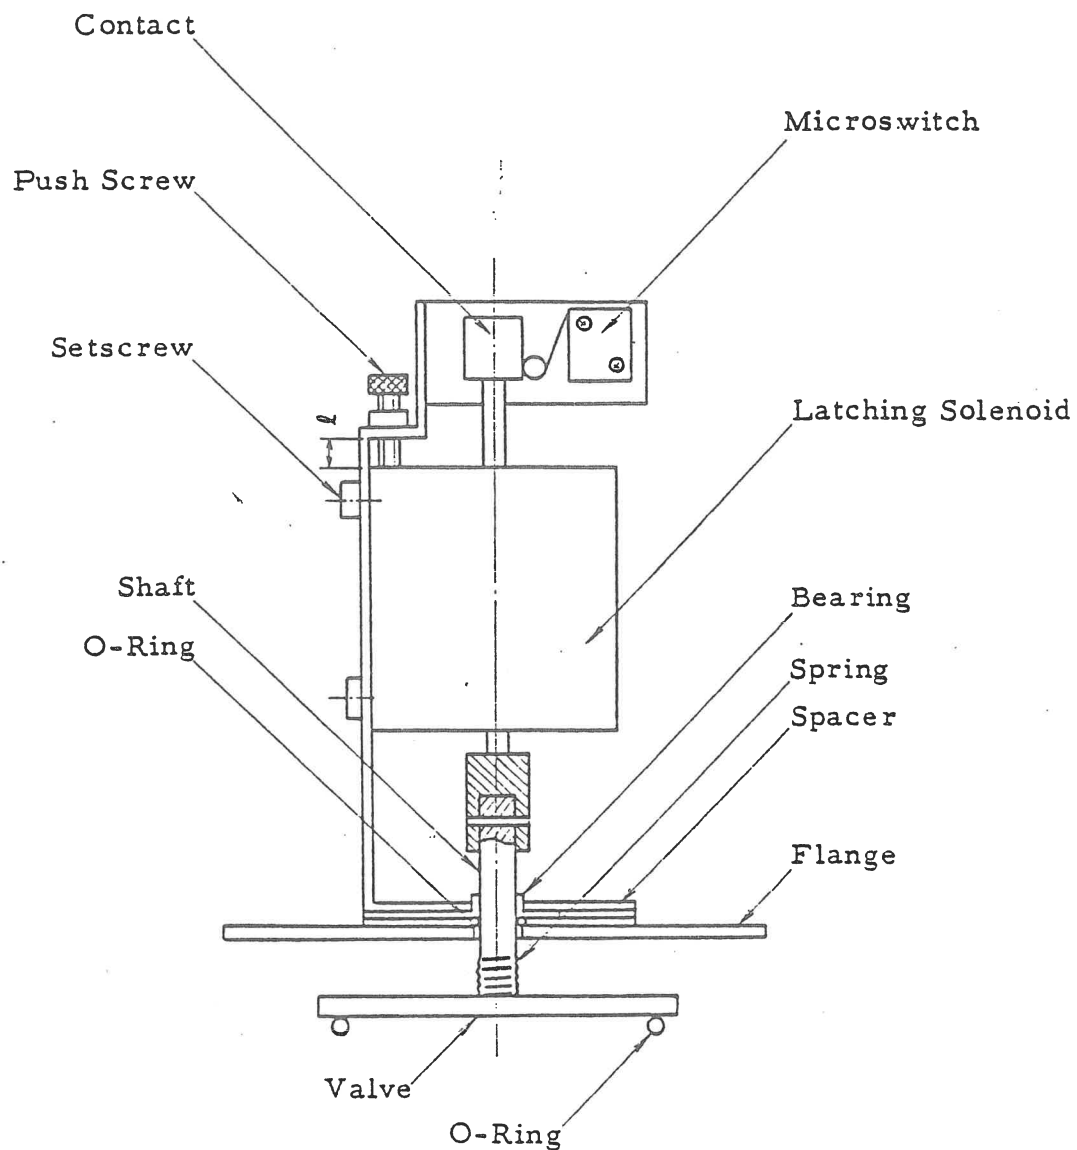

Fig. 5-3 Valve Construction
- (2) Fig. 5-3 indicates the valve construction.